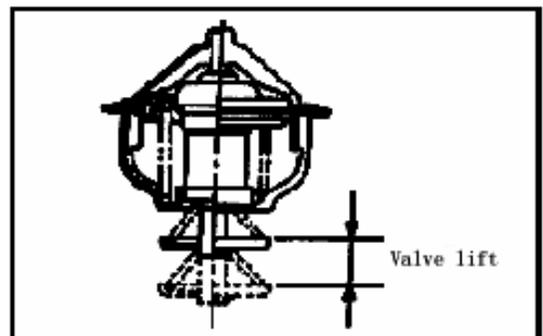

Fig 7-6
- (2) Check that the amount of valve lift is at the standard value when the water is at the full-opening temperature. (See Fig 7-6).